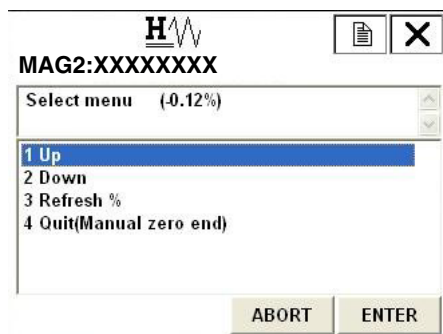
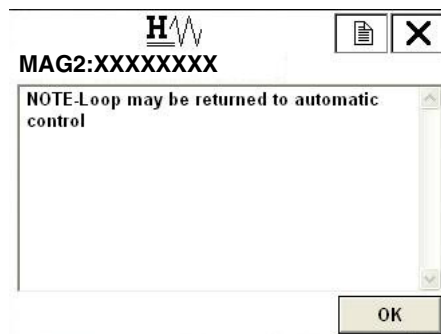

Figure 111.
Figure 112.
5. Once the display as shown Figure 111 appears, confirm the value appears on the screen and select an appropriate command by moving the arrow key up or down. After marking a selection, press F4 (ENTER). Check the adjustment value by selecting "3 Refresh %" command. If you finish the manual zero, select "4 Quit (Manual zero end) command and press F4 (ENTER). Then screen as shown in Figure 112 appears. Press OK and then the return to the Manual zero menu.